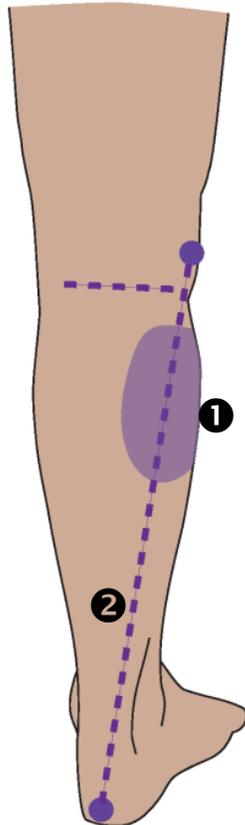

Figure 15. Optimal Calf Location
- 1 The target muscle for calf placement is the lateral gastrocnemius (Figure 15 ❶).
- 2 Use the lateral femoral condyle and heel as landmarks to draw an imaginary line along the calf (Figure 15 ❷).